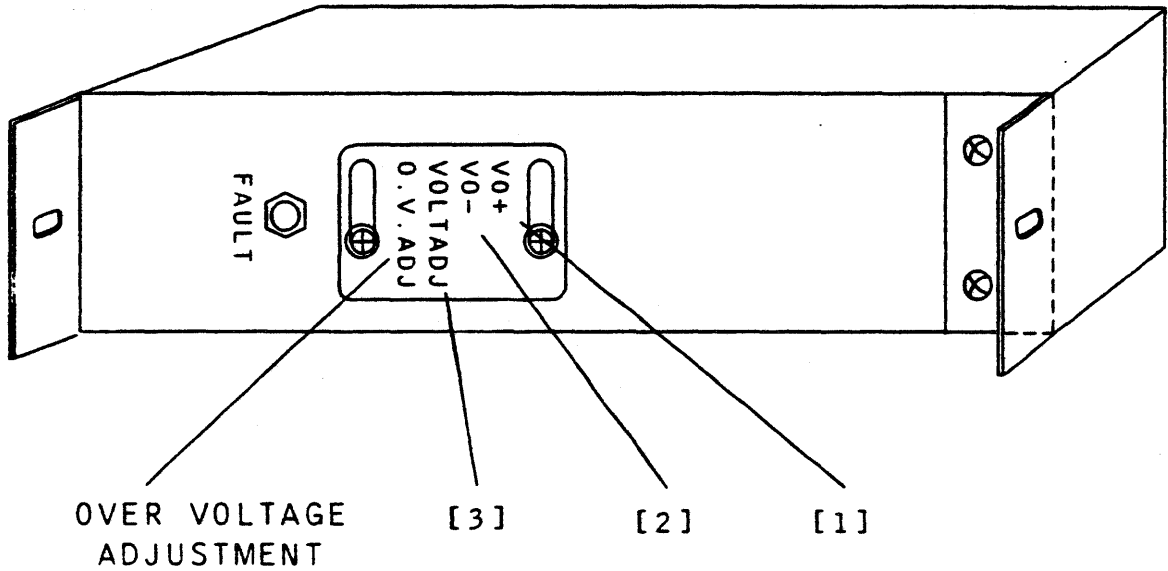

FIGURE 3.2-1. 24.0 VDC REGULATOR (58047200) ADJUSTMENT
2. Using cross-tip screwdriver, release regulator adjustment point cover (Figure 3.2-1, [1]).
1. Using digital voltmeter (DC function) having insulated probe tips, carefully insert leads into respective test points (Figure 3.2-1, [2]).
- o Turn VOLT ADJ clockwise until a reading of 10% above normal (26.40V) is obtained (Figure 3.2-1, [3]).